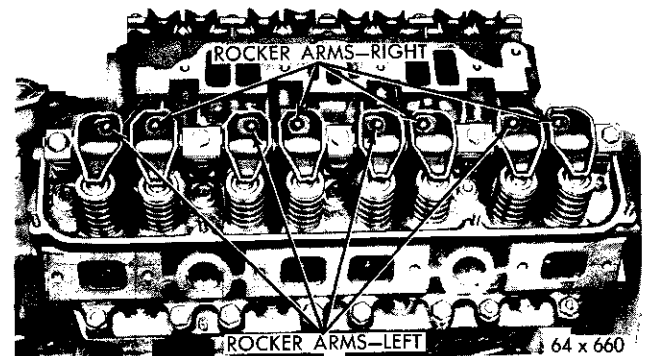

Fig. 4—Rocker Arm Assemblies Installed
- (1) Remove the cylinder head cover and gasket.
- (2) Remove the rocker shaft bolts and retainers and remove the rocker arms and shaft assembly.
- (3) If the rocker arm assemblies have been disassembled for cleaning, inspection, or replacement, refer to Figure 4 for proper reassembly.
(7) Install the rocker arm and shaft assembly starting each push rod into its respective rocker arm socket (Fig. 4) making sure to install the long stamped steel retainers in the number two and four positions.